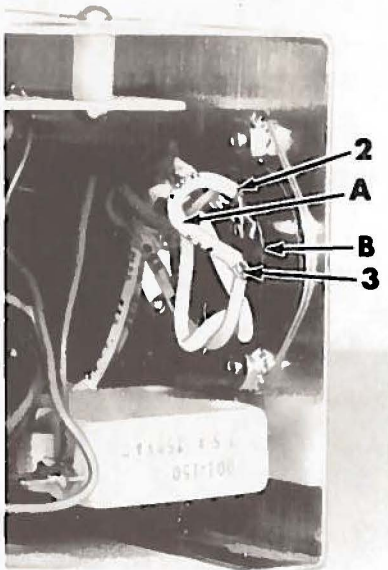

Fig. 39
When installing inching switch, (No. 670 B-21) be sure to remove jumper wire (A, Fig. 39) located between pin #2 and pin #3 on socket (B) before connecting the inching switch plug or it will not function properly.
Should the inching switch be removed at a later date, the jumper wire (A, Fig. 39) must be replaced or the needle positioning unit will not position up.